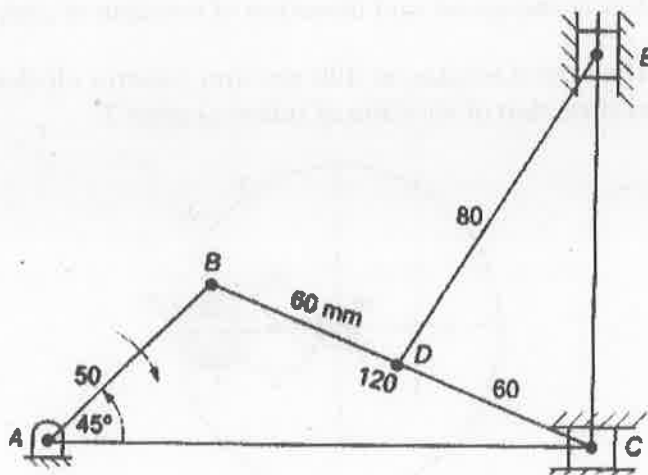

Figure 4
- (b) In the mechanism shown in Figure 4, link AB rotates clockwise at a speed of 240 rpm . At the instant shown, find the velocity of slider C . The dimensions are as follows $AB = 50 \text{ mm}$, $BC = 120 \text{ mm}$, $BD = DC = 60 \text{ mm}$, $DE = 80 \text{ mm}$. (13)